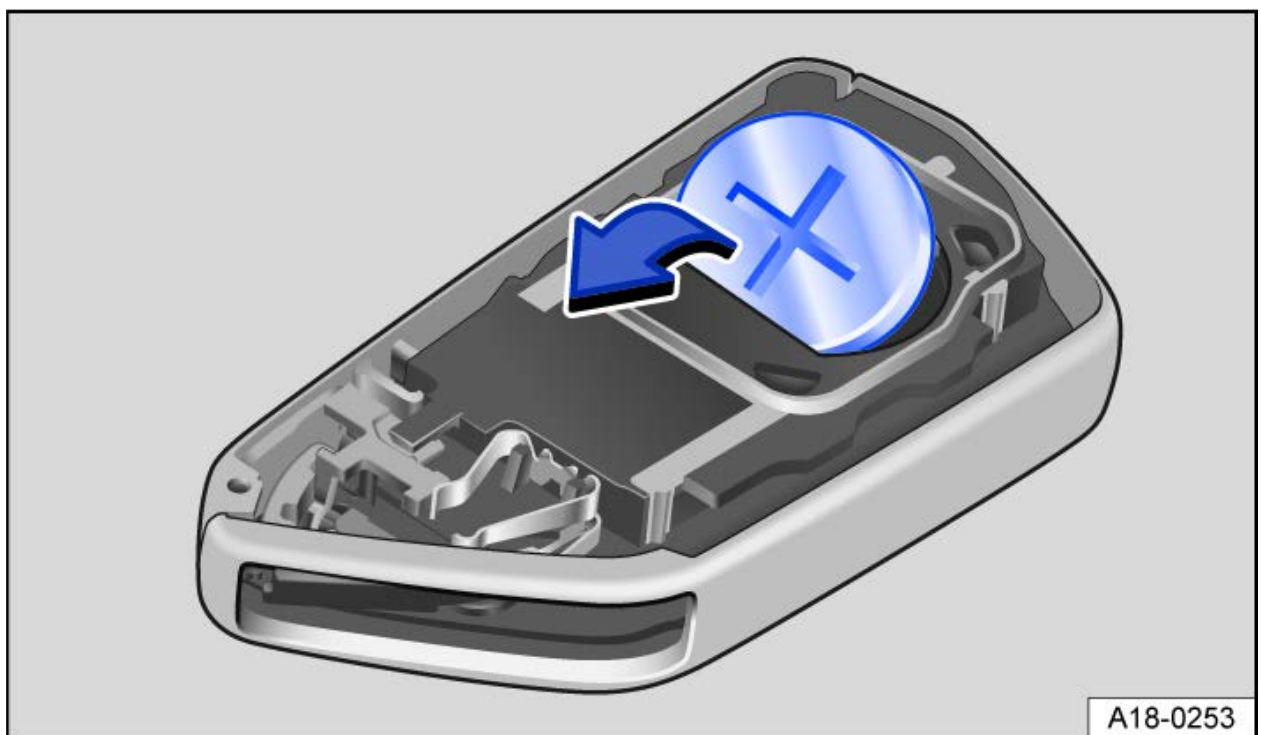

Fig. 2 Vehicle key: replacing the button cell battery
- Lift the button cell battery out of the battery compartment → *fig. 2*.